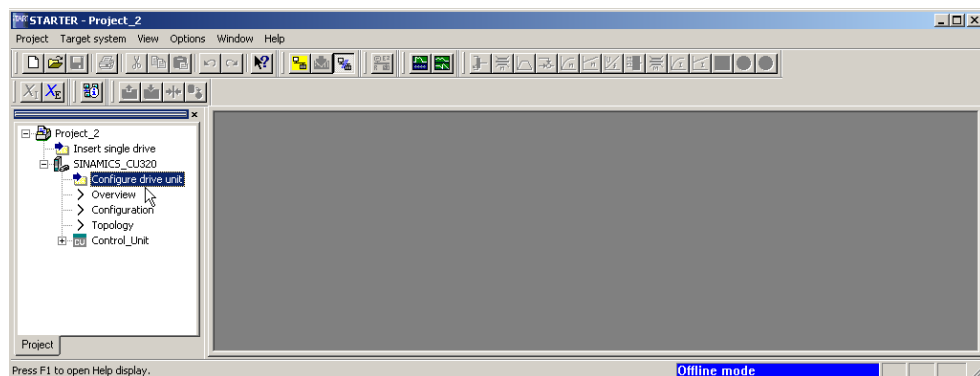

Fig. 3-14 STARTER project navigator "Project_2"
As you can see in Fig. 3-14, the project Wizard has created **Project_2**, drive unit **SINAMICS_CU320**, and a **Control_Unit** in the project navigator.
1. In the project navigator, open the **SINAMICS_CU320** directory and double-click the element **Configure drive unit** (see Fig. 3-14).